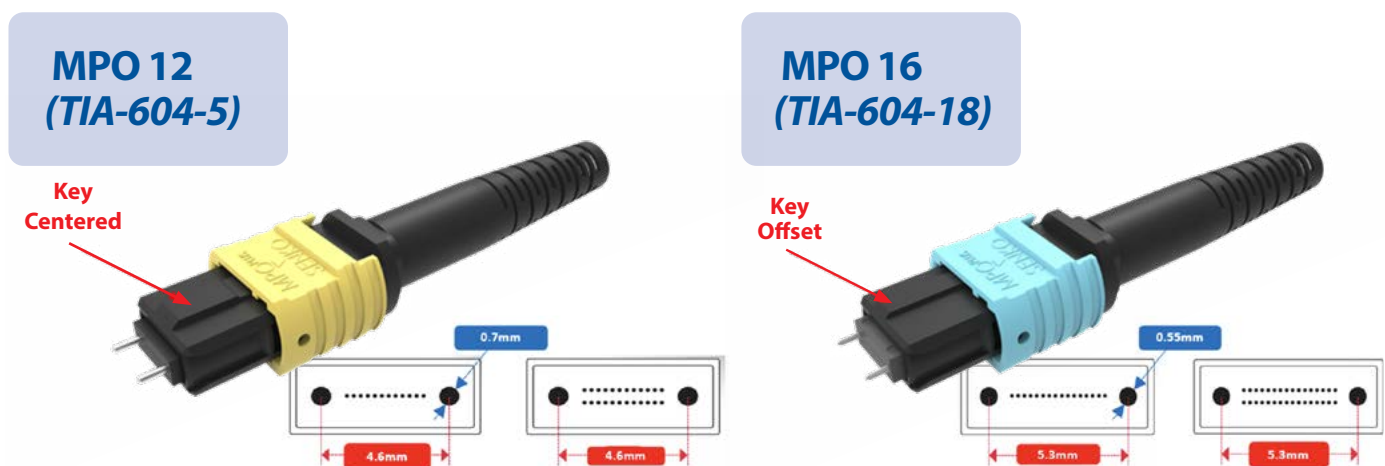

Figure 10 MPO-12 vs MPO-16 Dimensional Differences
- C Pins** Senko offers SM Grade, SM Super Low Loss grade, MM Grade, and MM Super Low Loss grade pins. These pins are available in sizes to fit both 12/24 fiber center key MPO connectors and 16/32 fiber offset key connectors. It is important to select the appropriate pin sizes for the specific fiber count, as the pin sizes differ significantly between 12 and 16 fiber counts. Ensure that the correct pins are selected accordingly. Refer to figure 10 for dimensional differences between MPO-12 and MPO-16.